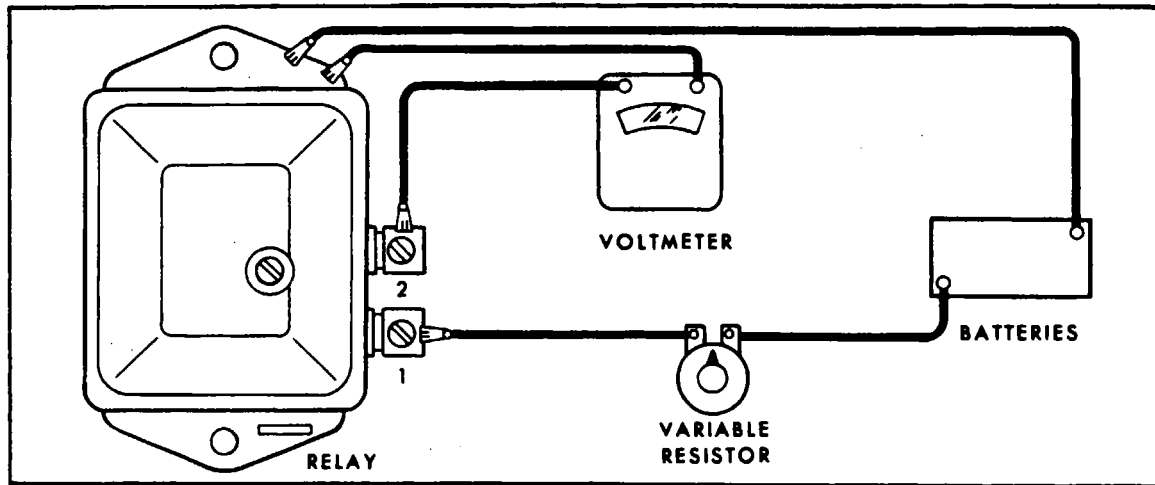

Figure 11-32. Relay Tests
- b. Connect this resistor with a voltmeter and two 12 volt batteries (for 14 volt systems or three 12 volt batteries for 28 volt systems) in series to the relay as shown in Figure 11-32. Connect the negative battery post to the relay base, and the positive battery post to the variable resistor.